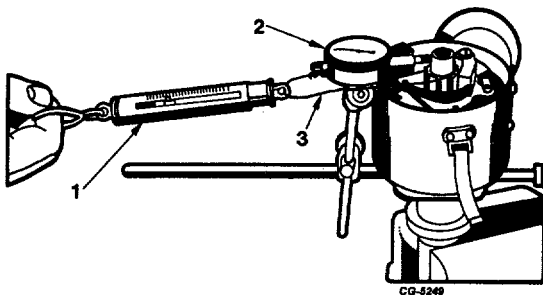

Fig. 8 Shaft and Bushing Wear Test (Checking Distributor Shaft Side Play)
3. Attach dial indicator to distributor housing so that indicator plunger rests against top portion of trigger wheel assembly (Figure 8). C20
4. Place one end of a wire loop around top of trigger wheel assembly (rotor shaft). Hook a spring scale in other end of wire loop and pull on a line with plunger of dial indicator (Figure 8). Wire loop must be perpendicular to shaft to assure a straight pull. Also, loop must not interfere with dial indicator mounting bracket.